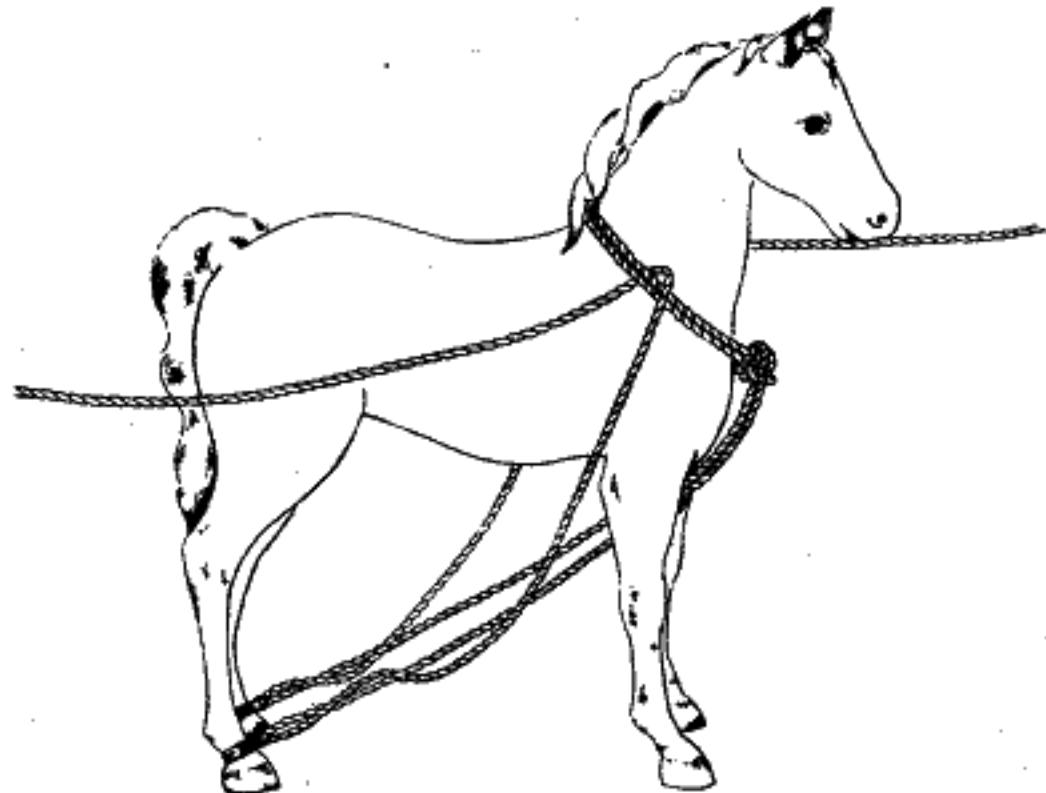

FIG. 359.—A casting tackle for horses.
**417. Casting Horses.**—The tackle illustrated in Fig. 359 is recommended for throwing horses, with safety both to the animal and the